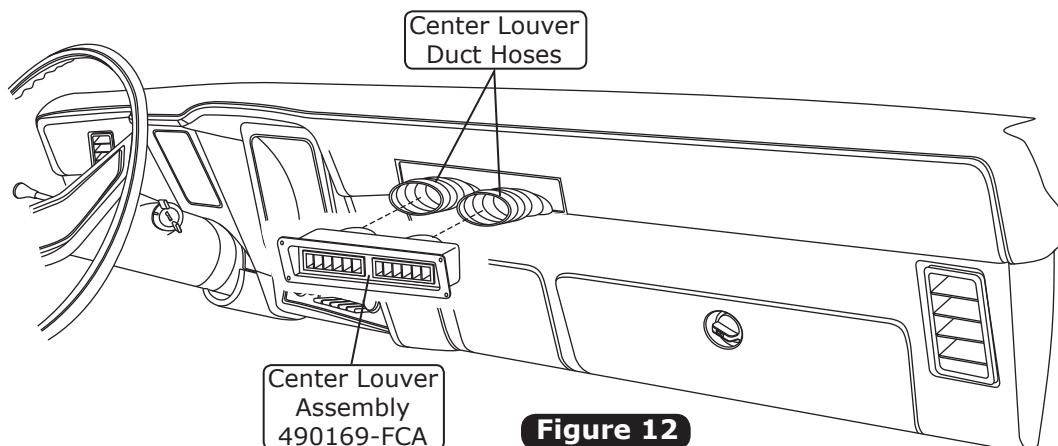

Figure 12
1. Attach (2) 25" lengths of 2" duct hose to the center louver as shown in Figure 12, below.